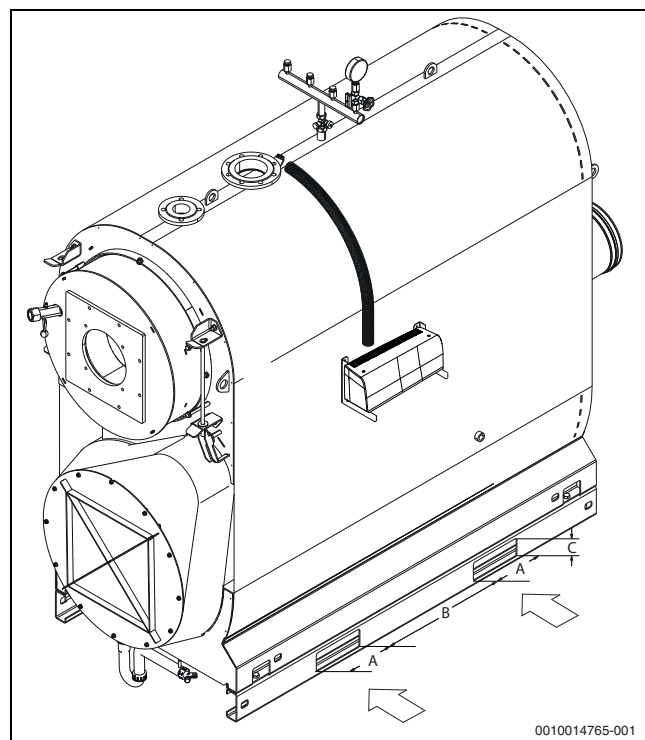

Fig. 5 Transporting the boiler with a forklift truck
- ▶ Pass the forks of the forklift truck through both braces on the base frame. (→ Figure 5, page 11).